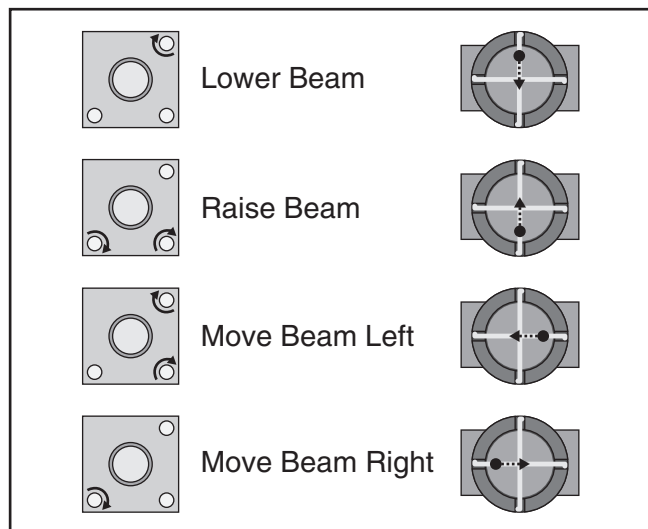

Figure 108. Mirror thumbscrew adjustment.
13. Adjust direction of beam path by tightening thumbscrews depending on desired direction of beam travel (see **Figure 108**).
20. Adjust direction of beam path by tightening thumbscrews depending on desired direction of beam travel, as shown in **Figure 108**.